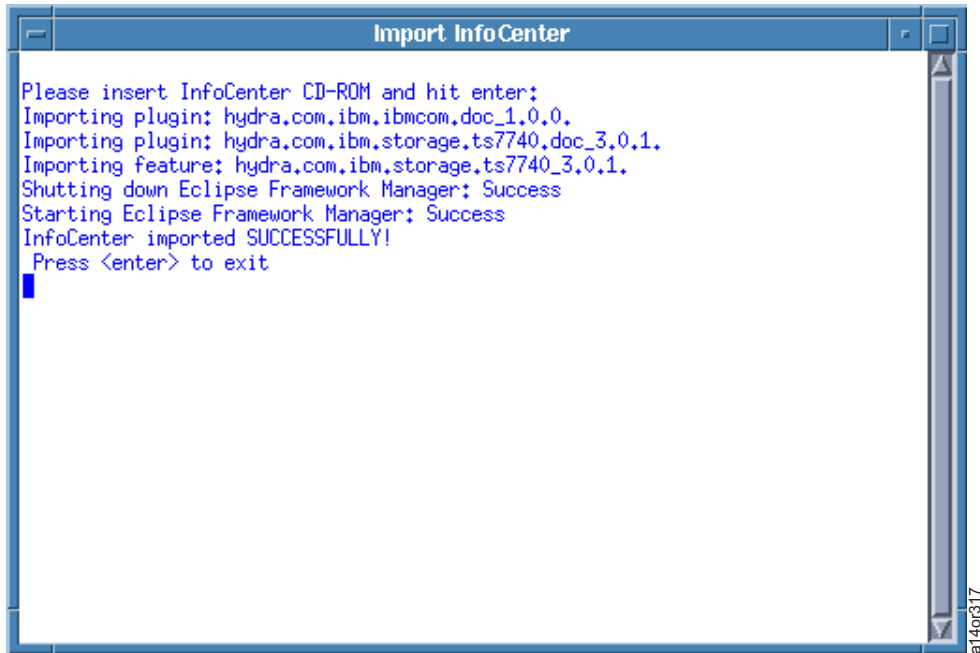

Figure 3-97. Insert InfoCenter CD Screen
2. From the Main Menu, select **System Console Actions** → **Import InfoCenter**. The Terminal screen shown in Figure 3-97 appears, and asks you to insert the InfoCenter CD.